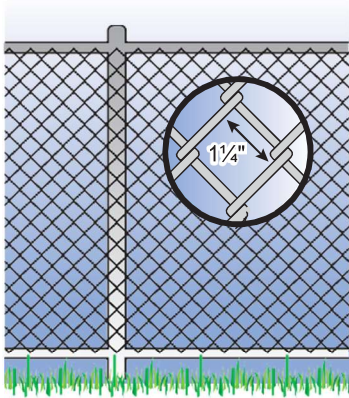
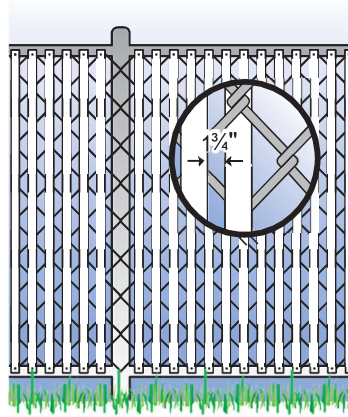

Figure 5
Figure 6
The mesh size shall not exceed $1\frac{1}{4}$ inches (fig.5) square unless slats (fig.6), fastened at the top or bottom of the fence, are used to reduce mesh openings to no more than $1\frac{3}{4}$ inches. Per 2018 ISPC #305.2.7.
- Maximum mesh size for chain link fences shall not exceed 1¼ inch square unless the fence is provided with slats fastened at the top or the bottom which reduce the openings to no more than 1¼ inches (figures 5 and 6).